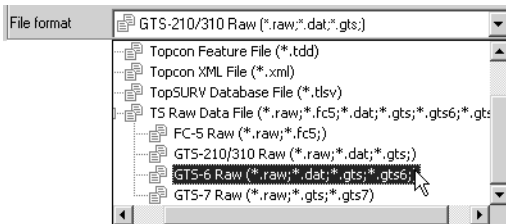

Figure 3-4. File Format List
2. In the left panel, select file type (Figure 3-4).